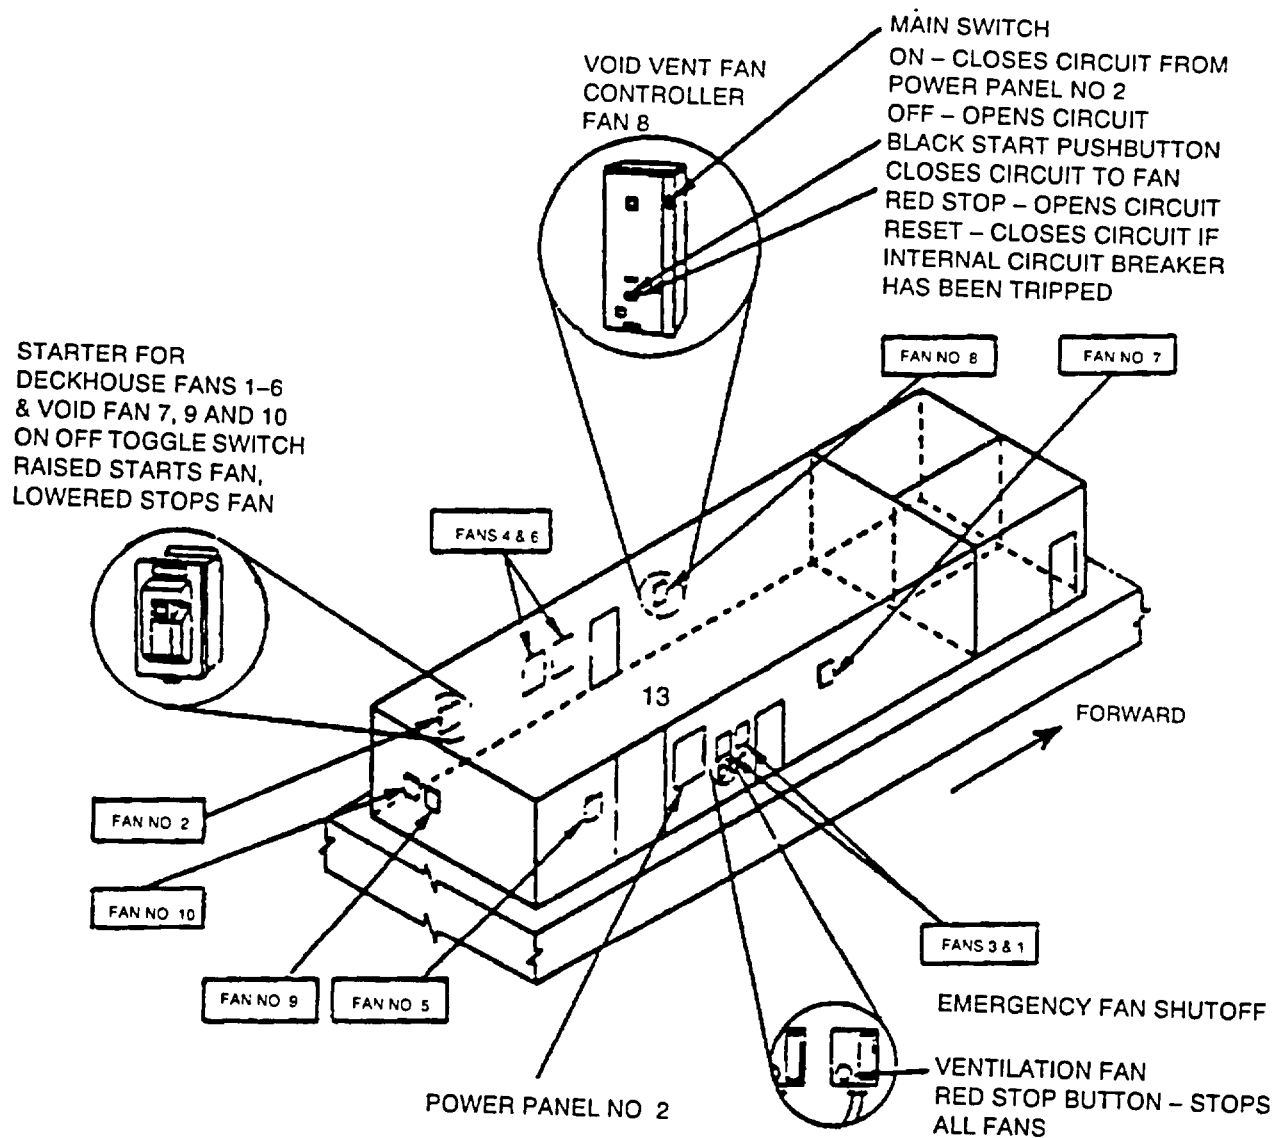

Figure 7-4. Ventilation System Operating Controls
- b. Six fans are controlled by electric controllers with ON/OFF toggle switches. Raise toggle switches to start fans. Lower toggle switches to stop fans. Location of controllers is provided in paragraph 7-5.3.1 and In Figure 7-4.
7-5.3.1 Increasing ventilation. Push controller ON switches to start ROWPU space ventilating fans Operate fans (Figure 7-4) as desired to provide ventilation.
- b. Voids ventilation fans 7, 9, and 10 are controlled by electric controllers with ON/OFF toggle switches. Raise toggle switches to start fans. Lower toggle switches to stop fans. Starter/controller locations are shown in Figure 7-4.
Selector switch, on heating element above AC unit in workshop, selects unit to be used. After unit has been selected, use controls shown in Figure 7-4.